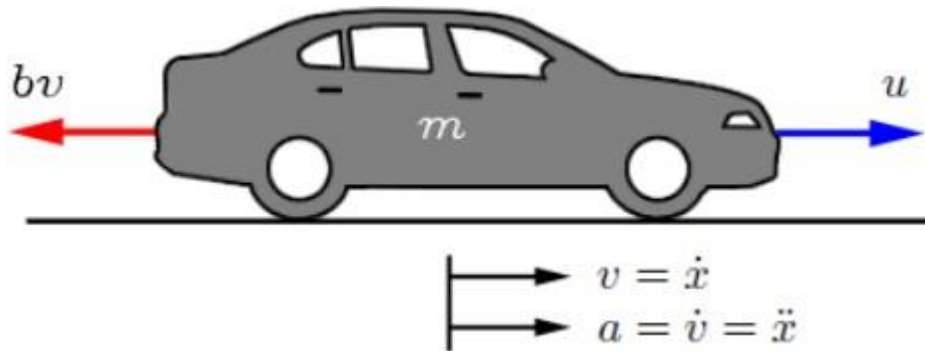

Figure 9 : Free Body Diagram for a Vehicle
1. Model the Car cruise open loop system shown in Figure 9 and Equation (8) and get its open loop step response using attached MATLAB PID Simulator attached with the pdf. (if your MATLAB supports it), and by writing a MATLAB code.